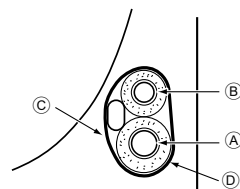

Fig. 4-4
- (A) Site-side refrigerant piping
- (B) Unit side refrigerant piping
4.4.1. Storing in the piping space of the unit (Fig.4-4)
- (A) Gas pipe
- (B) Liquid pipe
- (C) Indoor/outdoor connection cable
- (D) Felt tape